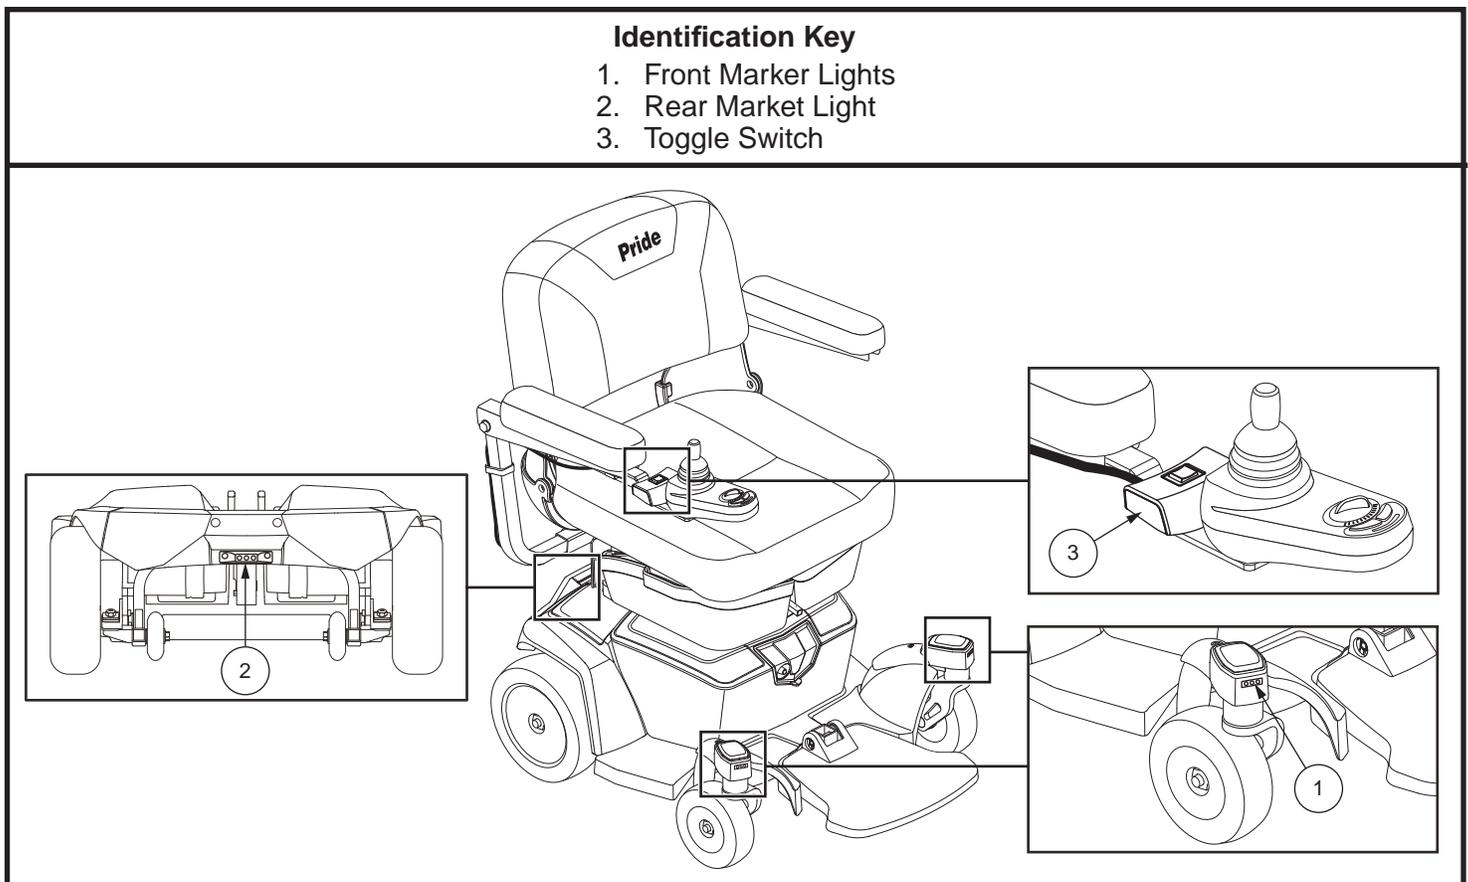

Figure 6. Marker Lights
Your Go Chair may be equipped with marker lights. The lights are composed of two (2) white LEDs mounted to the front caster arm cover, and one (1) red LED mounted to the rear shroud of your Go Chair. **See figure 6.**
1. Press the toggle switch to activate the marker lights. **See figure 6.** A light on the toggle will illuminate when the marker lights are activated.